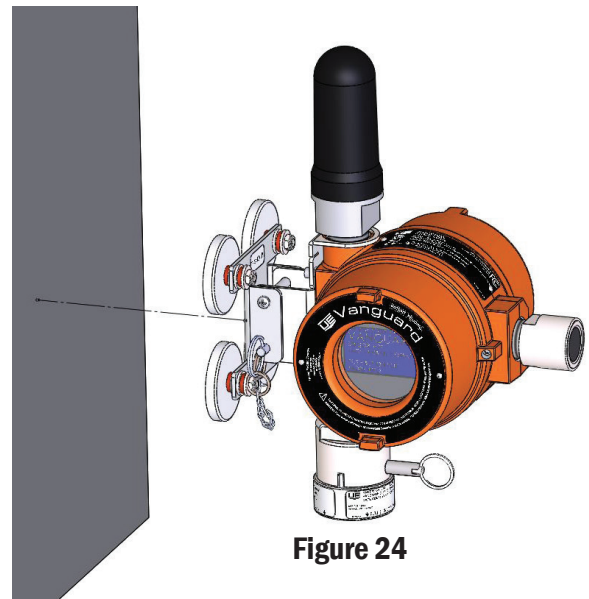

Figure 24
2. Attach device to mounting bracket by hooking onto top pin of mounting bracket plate (see Figure 24).
3. Push attached pin [5] through bottom holes to secure device to the bracket (see Figure 24).
This device sends critical gas concentration information reliably and securely via WirelessHART communication protocol, version 7.2. Configuration can be completed using the UE Vanguard Configurator Unit, any HART handheld communicator, or directly into the control system using a HART modem. HART terminals are located inside the intrinsically safe battery compartment and are clearly marked (see Figure 24).
4. Connect wires from HART Modem to HART terminals (see Figure 24).